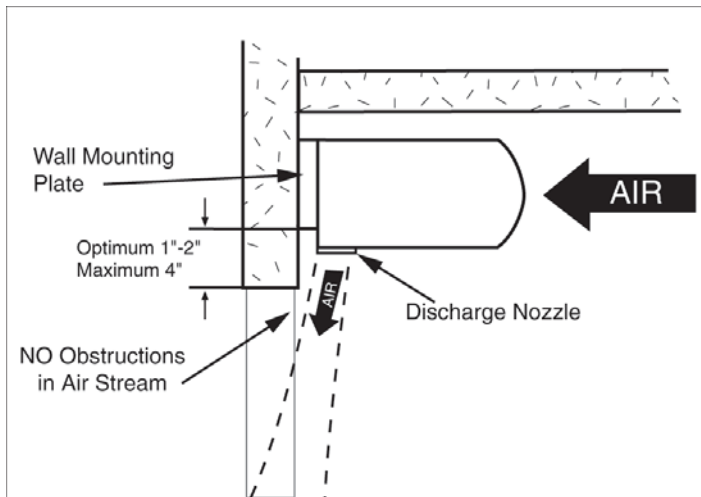

FIGURE 2 - Standard Wall Mounting
- D. Position the center of the wall mounting plate over the center of the door opening with the larger opening of the key hole slots facing up. For optimum performance, the bottom of the mounting plate should be no more than 2" or less than 1" above the top of the door opening. The wall mounting plate thickness provides a natural 3/4" space which allows for mounting it up to 4" above the opening. See Figure 2